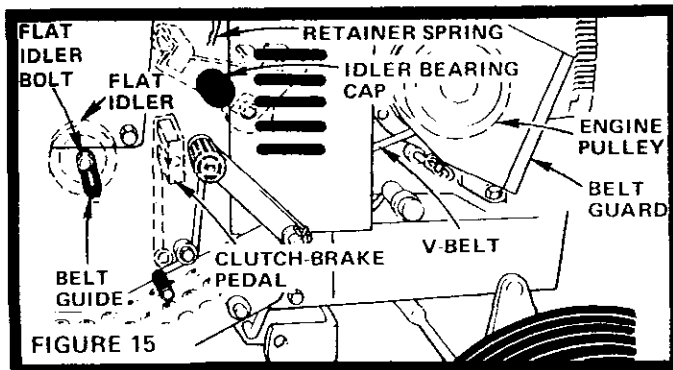

FIGURE 15
A new V-Belt may stretch after the first few hours of operation. If Clutch-Brake Pedal, in drive position (Fig. 15), is considerably to the front or rear of the vertical position, the V-Belt is out of adjustment and must be re-tensioned.
- a. Idler Bearing (Fig. 15)
- Remove Spark Plugs and Belt Guard and turn Engine Pulley (Fig. 15) clockwise by hand until 25° BTC mark on gear cover aligns with mark on flywheel. Turn another 1/4 turn to ensure points are fully open.